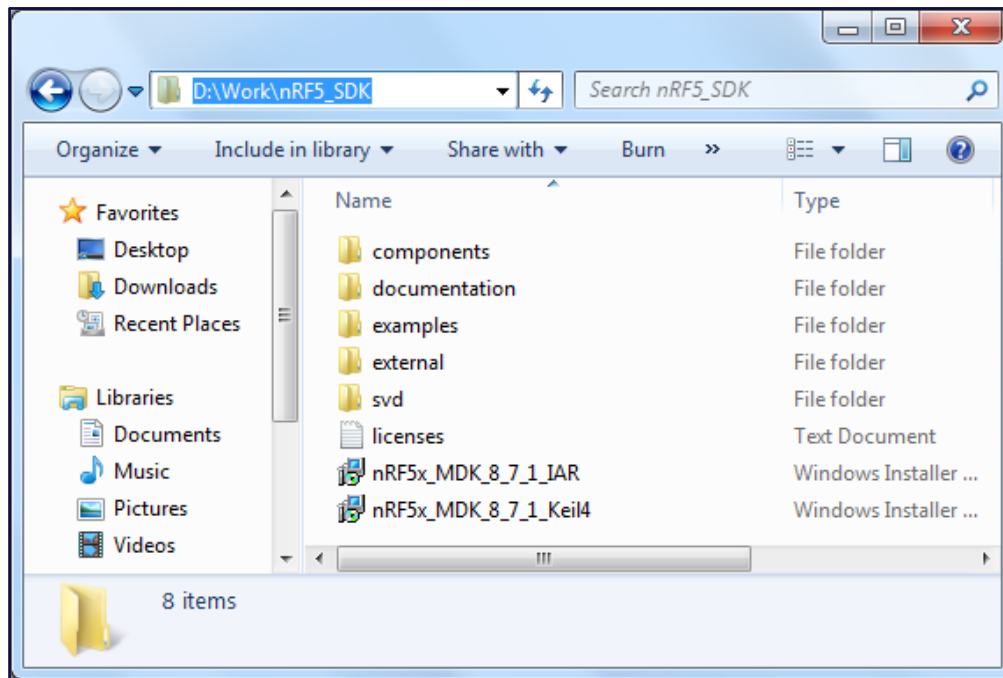

Figure 1: nRF5 SDK Folder Structure
2. Once downloaded, extract and place the SDK in a suitable location on your machine, e.g.: **D:\Work\nRF\_SDK** (Figure 1).